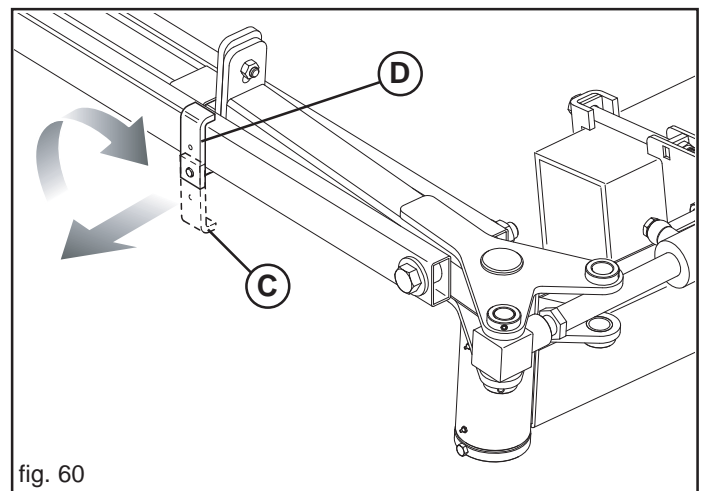

fig. 60
During operation, keep the stop block in position (C, Fig. 60), in order to enable the row marker arm to follow the movement of the ground. Before reclosing the equipment ready for transportation, lock the row marker arm by rotating the stop block to position (D).